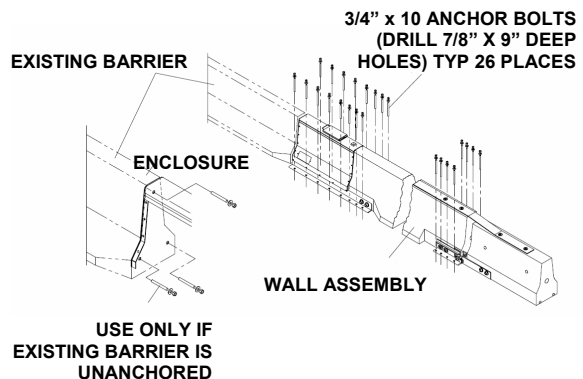

Figure 8
3. Anchor the wall assemblies to the foundation (Figure 8).